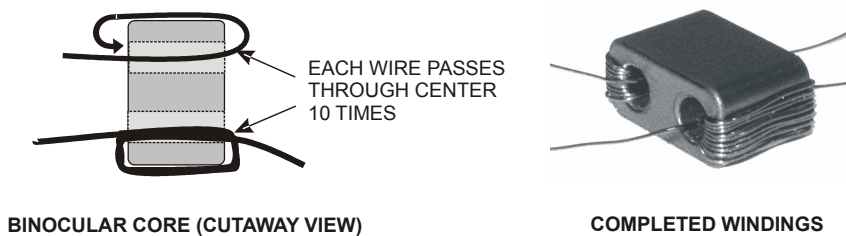

Figure 2. Winding T1 Secondaries.
- Wind each length through one side of the binocular core as shown in Figure 2. The wire passes through the hole in the core exactly 10 times (and passes down the side of the core 9 times), so turn 1 is when you first slip the wire through the hole, before you wrap it around the outside.